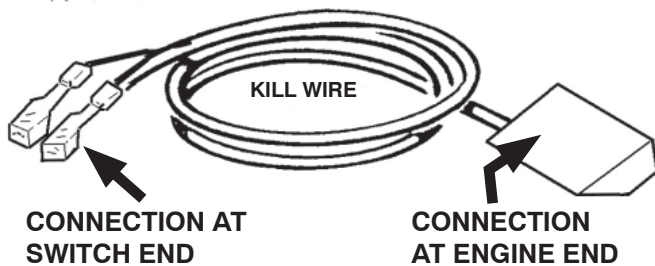

Fig. 2
1. Place 1 3/8" long slotted pan head screw into switch plate and down through hole in upper right hand handlebar. (See Fig. 2)